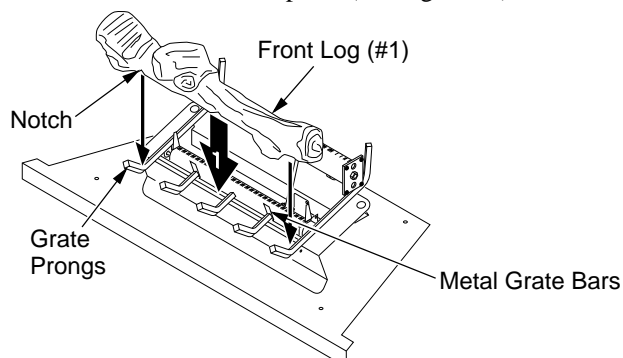

Figure 24 - Installing Front Log (#1)
1. Place front log (#1) on top of the grate. Make sure the notches in the bottom of the log fit over the grate prongs (see Figure 24, page 14). Push back of logs flush with metal grate bars.